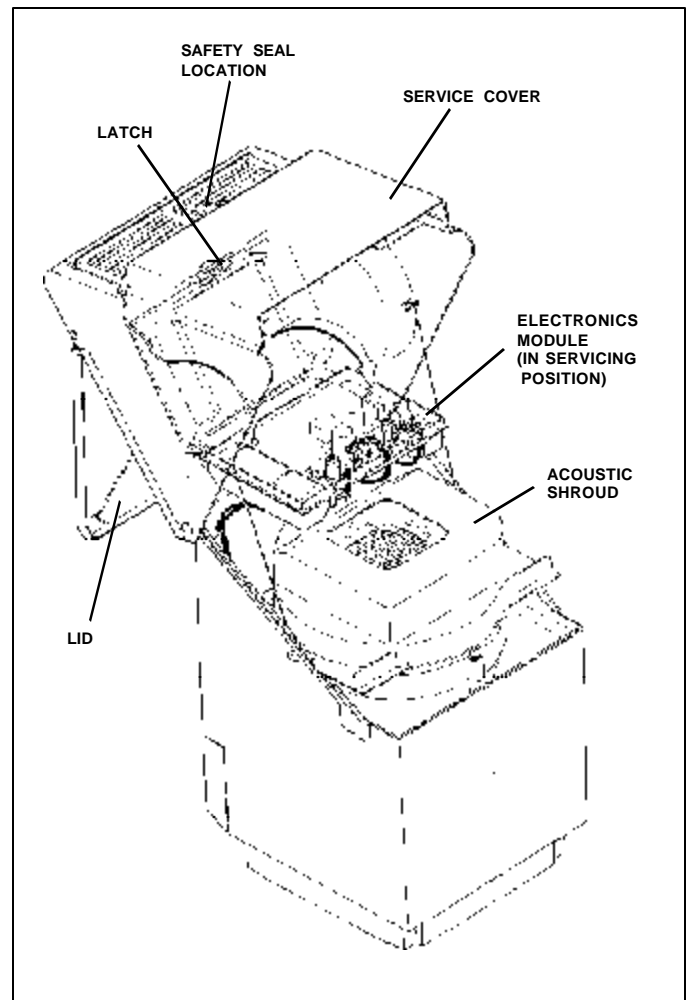

figure 6 Electronics Module in Servicing Position
- Release the latch from the the *Electronics Module* and tilt module down into servicing position (See Figure 6).